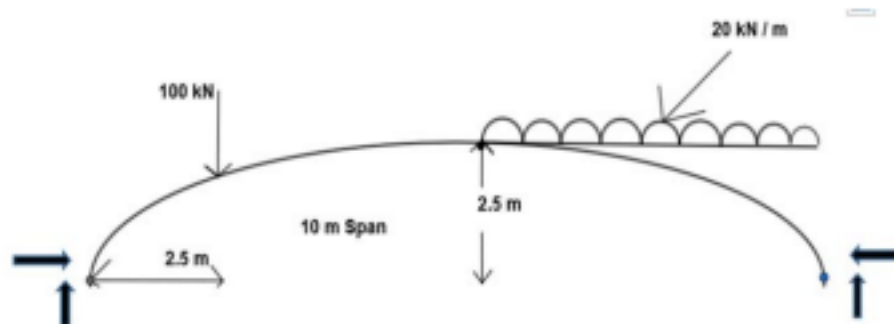

Fig.2
- b) Three hinged parabolic arch of span 10 m and central rise 2.5 m supports a point load of 100 kN at left quarter span and a UDL of 20 kN/m over the right half of the span. See fig.2.